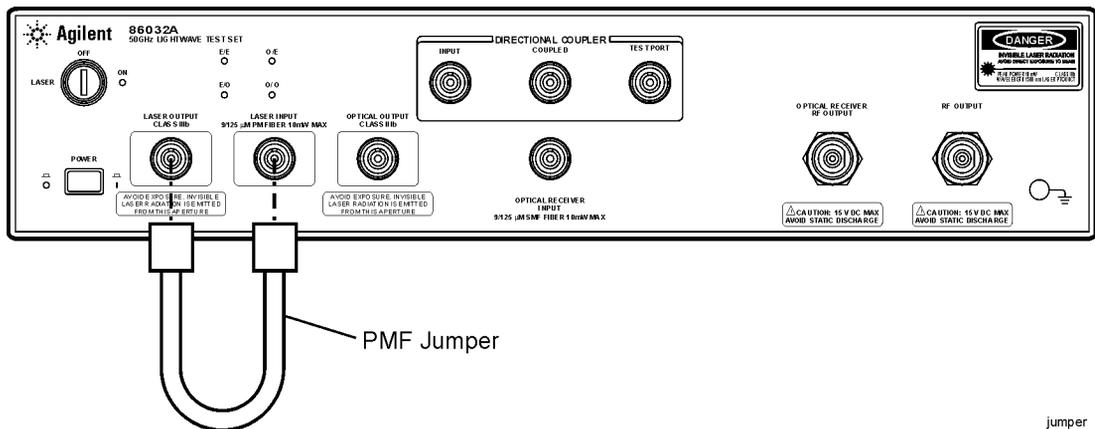

Figure 1-1. Location of the PMF Jumper
- 1 Connect the jumper between the LASER OUTPUT and LASER INPUT on the 86032A front panel. Refer to Figure 1-1.